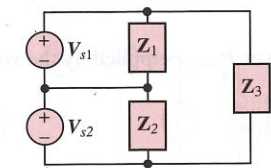

Figure P7.39
- 7.39** Determine the real power dissipated and the reactive power stored in each of the impedances shown in Figure P7.39. Assume: